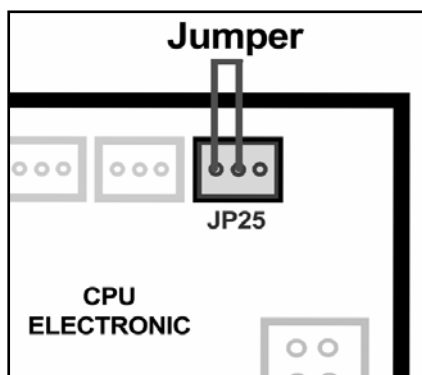

Figure 5-49: Test Jumper Position
b. Place a jumper between pins 2 & 3 (Figure 5-49).